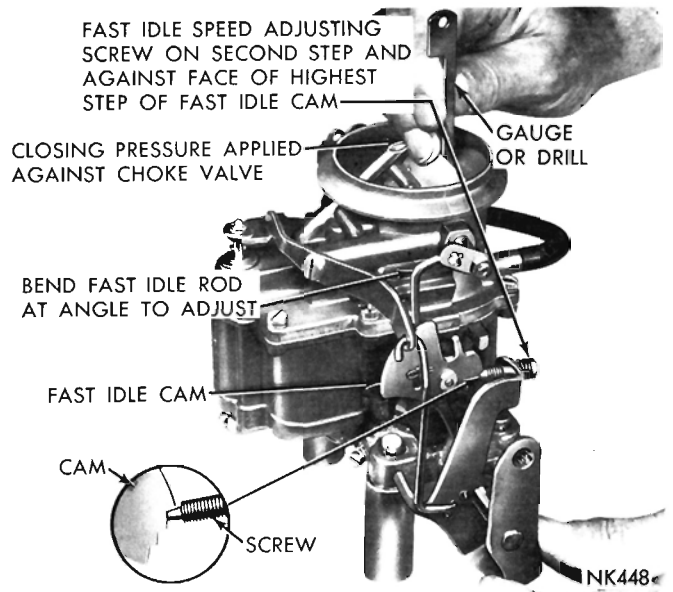

Fig. 17—Fast Idle Cam Position Adjustment
(1) With the fast idle speed adjusting screw contacting the step on the fast idle cam, shown in (Fig. 17), move the choke valve toward the closed position with light pressure. Insert a 9/64 inch drill or gauge between the choke valve and the wall of the air horn.
(2) An adjustment will be necessary if a slight drag is not obtained as the drill or gauge is being removed.
(3) If an adjustment is necessary, bend the fast idle
rod at the upper angle, using Tool T109-213, until the correct valve opening has been obtained. Refer to (Fig. 17).